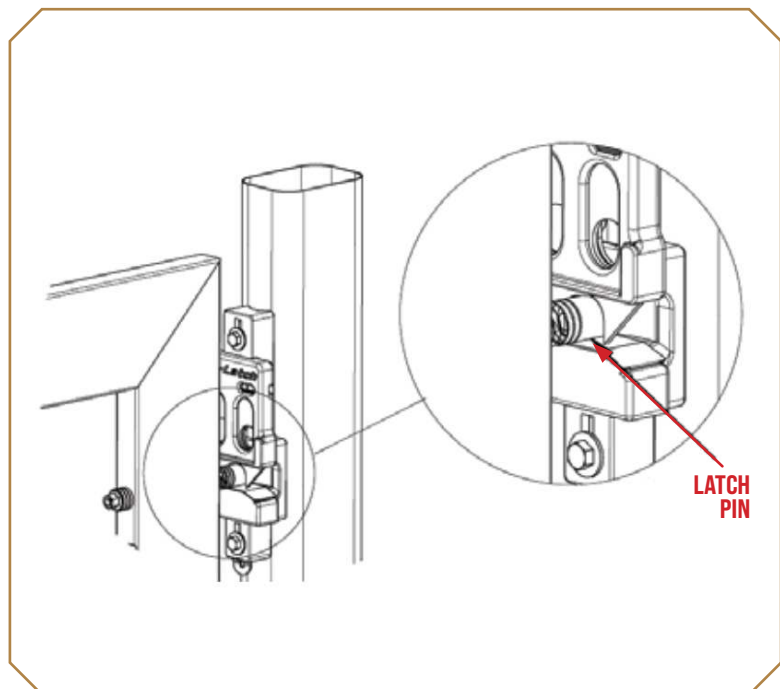

Figure 7
5. Push the latch upward to contact the latch pin and torque the mount screws to 20 ft lbs (Figure 7).